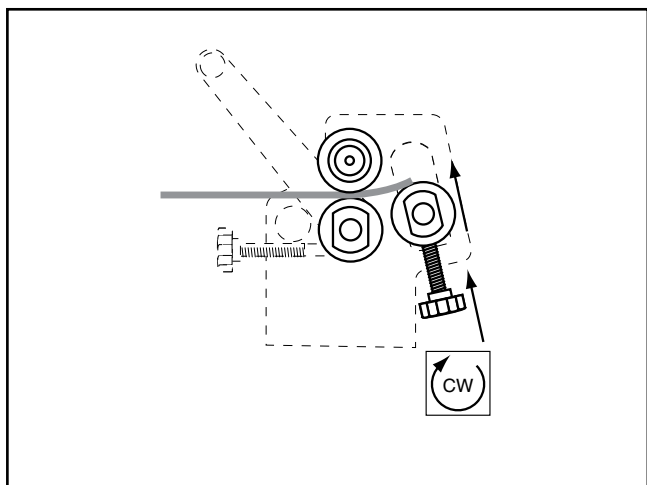

Figure 16. Setting the radius.
- Turn the radius adjustment knobs to lift the rear roller until the desired radius bend is reached (see **Figure 16**). Make sure to turn the knobs equal amounts so the rear roller is always parallel with the other rollers. Failure to do so will create a larger radius on one end than the other, resulting in a cone or spiral shape.